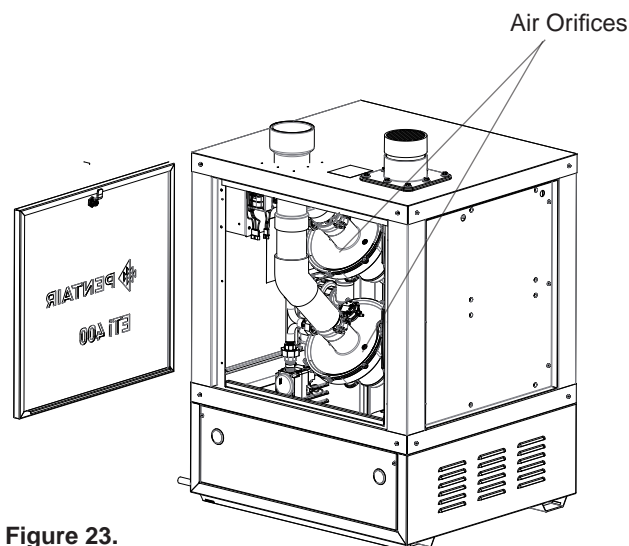

Figure 23.
6. Push the air intake assembly into the air orifices. Note: Be sure the top part of the elbow is concentric to the air intake hole in the top panel (see Figure 23).